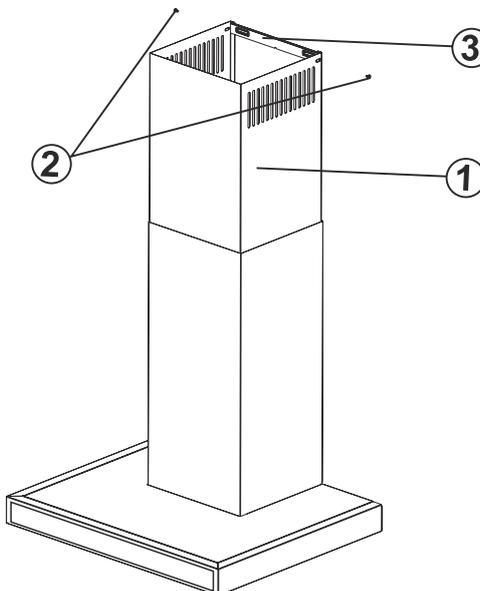

Fig. 19
The cooker hood is set in the midst, and then the flue connecting plate (3) is directly affixed to the wall, under the cover or mark the points E and F. (Fig. 19)
Drill points E and F with Ø6mm drill bit, and insert Ø6mm and plastic dowels. Insert the flue connection plate with 3,9X22 screws (Fig. 19).
Affix the inner flue to the flue connection plate by pulling it upwards (Fig. 19/2).